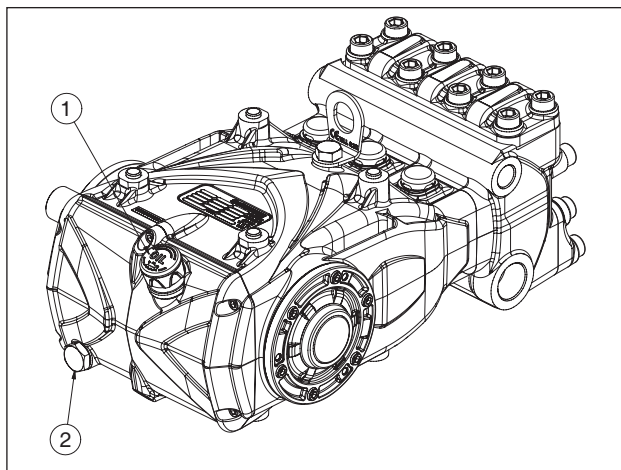

Fig. 3
Using the oil dipstick pos. ①, Fig. 3.
The correct checking of the oil level is made with the pump not running, at room temperature. The oil change must be made with the pump at working temperature, removing: the oil dipstick, pos. ①, and then the plug pos. ②, Fig. 3. The oil check and change must be carried out as indicated in chapter 11.